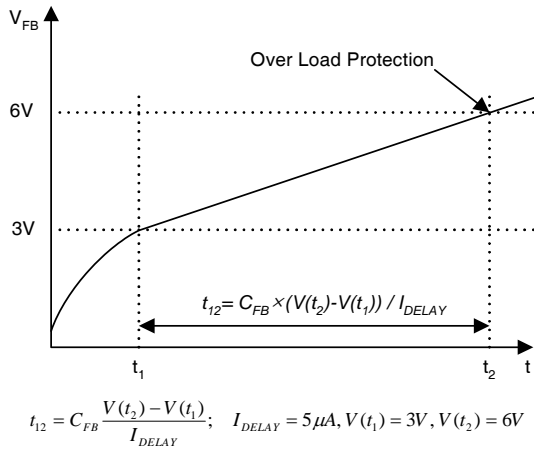

**Figure 5. Pulse Width Modulation (PWM) Circuit**
**2. Feedback Control:** The 700V FPS series employs current mode control, as shown in Figure 5. An optocoupler (such as the H11A817A) and shunt regulator (such as the KA431) are typically used to implement the feedback network. Comparing the feedback voltage with the voltage across the  $R_{sense}$  resistor of Sense FET plus an offset voltage makes it possible to control the switching duty cycle. When the KA431 reference pin voltage exceeds the internal reference voltage of 2.5V, the optocoupler LED current increases, the feedback voltage  $V_{fb}$  is pulled down and thereby reduces the duty cycle. This typically happens when the input voltage increases or the output load decreases.
**4.3 Over Voltage Protection (OVP):** In the event of a malfunction in the secondary side feedback circuit, or an open feedback loop caused by a soldering defect, the current through the optocoupler transistor becomes almost zero (refer to Figure 5). Then,  $V_{FB}$  climbs up in a similar manner to the overload situation, forcing the preset maximum current to be supplied to the SMPS until the overload protection is activated. Because excess energy is provided to the output, the output voltage may exceed the rated voltage before the overload protection is activated, resulting in the breakdown of the devices in the secondary side. In order to prevent this situation, an Over Voltage Protection (OVP) circuit is employed. In general,  $V_{CC}$  is proportional to the output voltage and the FPS uses  $V_{CC}$  instead of directly monitoring the output voltage. If  $V_{CC}$  exceeds 19V, OVP circuit is activated resulting in termination of the switching operation. In order to avoid undesired activation of OVP during normal operation,  $V_{cc}$  should be designed to be below 19V.